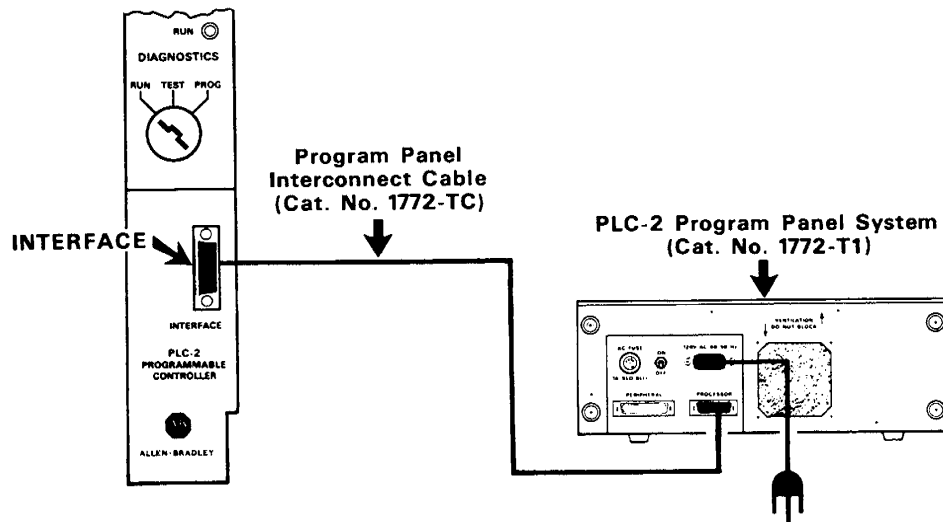

Figure 3.42 – PLC-2 Program Panel Connection
**3.2.8.1 PLC-2 Program Panel Connection** – The Bulletin 1772 PLC-2 Program Panel System is connected using the Program Panel Interconnect Cable (Cat. No. 1772-TC). This Cable connects to the Program Panel socket labeled PROCESSOR. This connection is shown in Figure 3.42.